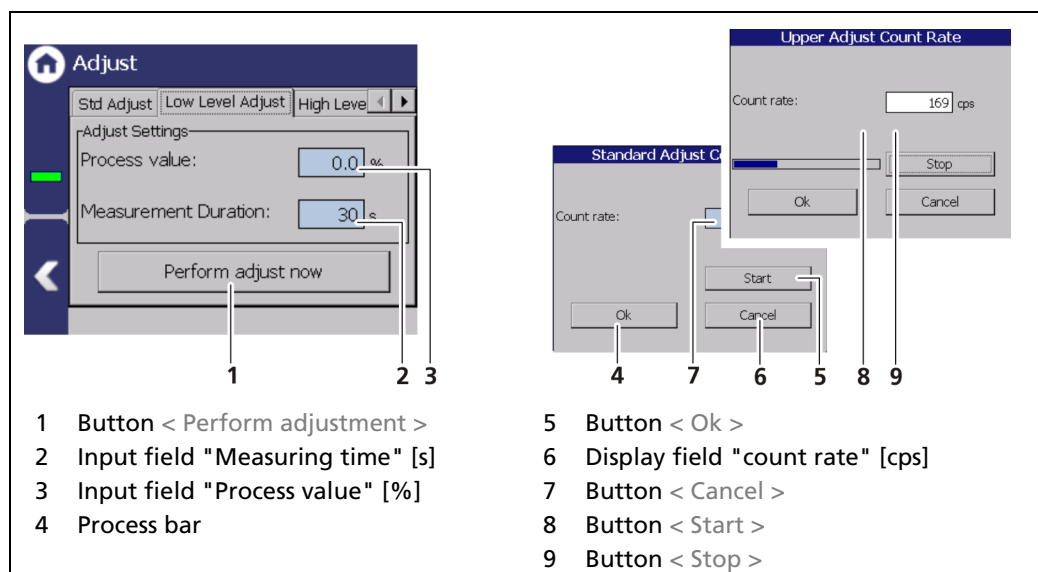

Fig. 90 Upper adjustment
1. Click on the field Process value (Fig. 90, item 3) to open the input field.
3. Click on the "Read-In-Time" field (Fig. 90, item 2) and specify the duration of measurement in seconds. The higher you set the measurement time, the more accurate the result.
4. Click on the button < Perform adjust now > (Fig. 90, item 1).
5. Click on the < Start > button (Fig. 90, item 5).